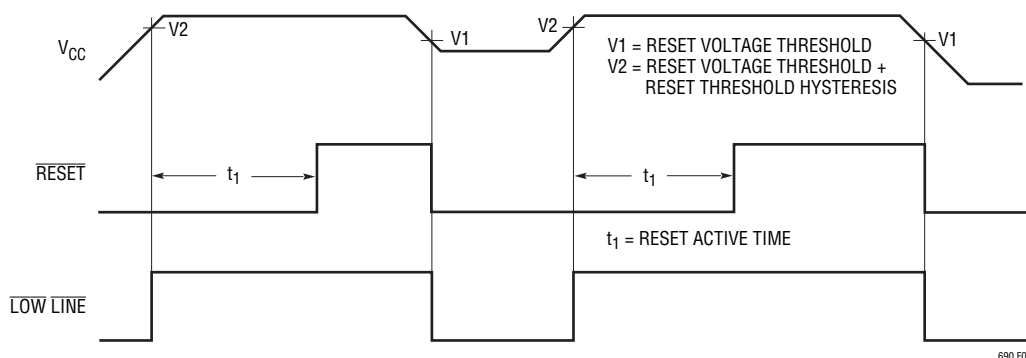

Figure 1. Reset Active Time
**LOW LINE:** Logic Output from Comparator C1.  $\overline{\text{LOW LINE}}$  indicates a low line condition at the  $V_{\text{CC}}$  input. When  $V_{\text{CC}}$  falls below the reset voltage threshold (4.65V typically),  $\overline{\text{LOW LINE}}$  goes low. As soon as  $V_{\text{CC}}$  rises above the reset voltage threshold,  $\overline{\text{LOW LINE}}$  returns high (see Figure 1).  $\overline{\text{LOW LINE}}$  goes low when  $V_{\text{CC}}$  drops below  $V_{\text{BATT}}$  (see Table 1).
The LTC690 family uses a bandgap voltage reference and a precision voltage comparator C1 to monitor the 5V supply input on  $V_{CC}$  (see Block Diagram). When  $V_{CC}$  falls below the reset voltage threshold, the  $\overline{\text{RESET}}$  output is forced to active low state. The reset voltage threshold accounts for a 5% variation on  $V_{CC}$ , so the  $\overline{\text{RESET}}$  output becomes active low when  $V_{CC}$  falls below 4.75V (4.65V typical). On power-up, the  $\overline{\text{RESET}}$  signal is held active low for a minimum of 35ms for the LTC690/LTC691 (140ms for the LTC694/LTC695) after reset voltage threshold is reached to allow the power supply and microprocessor to stabilize. The reset active time is adjustable on the LTC691/LTC695. On power-down, the  $\overline{\text{RESET}}$  signal remains active low even with  $V_{CC}$  as low as 1V. This capability helps hold the microprocessor in stable shutdown condition. Figure 1 shows the timing diagram of the  $\overline{\text{RESET}}$  signal.